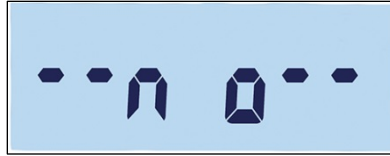

Figure 3-39: Second Application Warning Message
- Only one application can be selected for activation by a function key. If an application is assigned to each key (for example, F1 = Counting, F2 = Animal Weighing), only the first application activated will work. If F1 is pressed, the terminal will enter Counting mode; pressing F2 will not activate Animal Weighing. Instead, a warning prompt will display (Figure 3-39). Exit the active application before pressing F2 to activate another application.